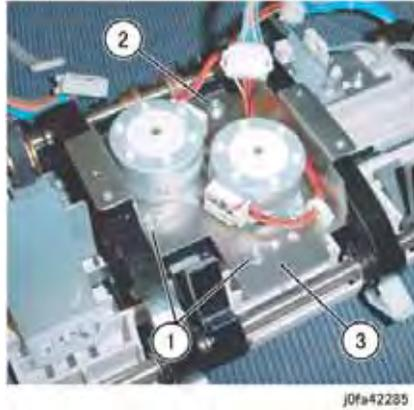

Figure 4 Removing the Front/Rear Tamper Motor Assembly
7. Remove the Front/Rear Tamper Motor Assembly (Figure 4):